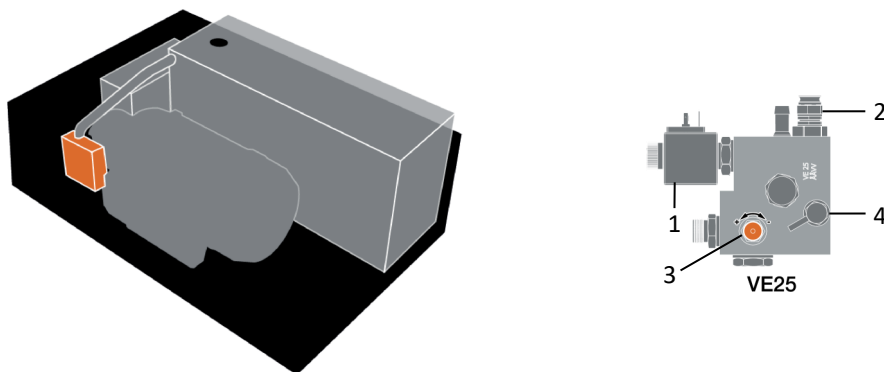

Figure 28. Valve package
1. The product is equipped with valve package VE25; see Figure 28.
2. Connect a suitable pressure gauge to the outlet; see position 4, Figure 28. The outlet is supplied with a protective cover that must be removed prior to connection.